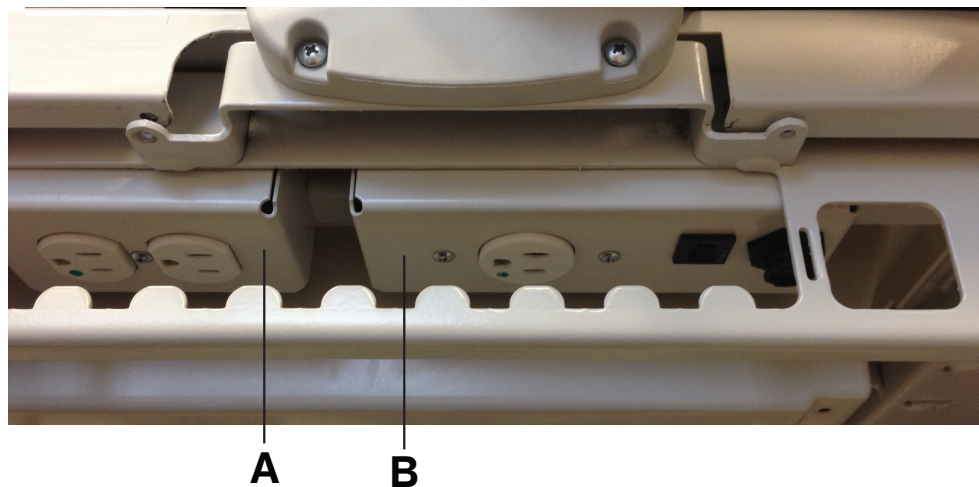

Figure 13: Optional InTouch auxiliary outlets
You can use the 110 volt **InTouch** auxiliary power outlet as a built-in power source for peripheral equipment. The outlet is located beneath the foot end on the patient left side of the product (A) (Figure 1 on page 13). There is a one and two plug option for the **InTouch** auxiliary outlet (A) (Figure 13 on page 31).
There is also an auxiliary mattress connector outlet for connecting a support surface option to InTouch (B) (Figure 13 on page 31). A 5A breaker is also integrated into this power outlet.